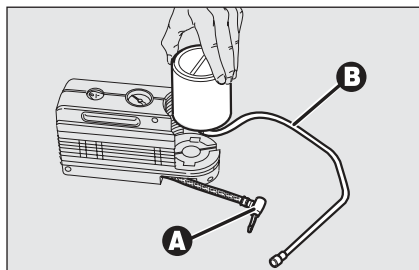

fig. 23
- ☐ disconnect connection **A**-fig. 23 and hose **B**;